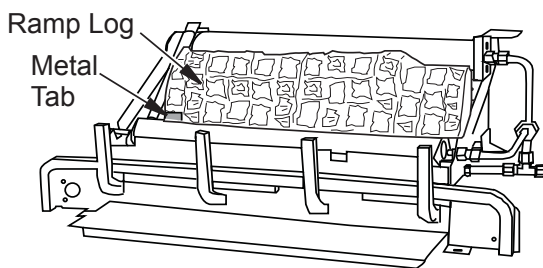

Figure 27 - Installing Fiber Ramp Log
1. Place fiber ramp log in center of chassis as shown in **Figure 27**. The fiber ramp log can be identified by the shape and much lighter weight when compared to the other logs. The log must sit flat on the black sheet metal and behind the left metal tab as shown. Make sure the side marked "BOTTOM" is setting down.